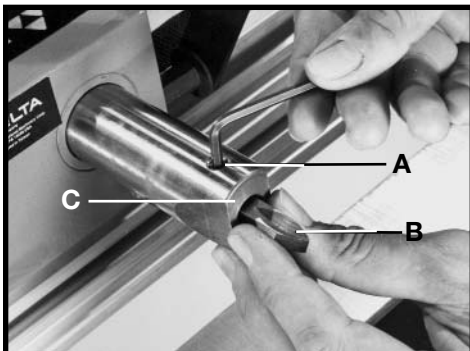

Fig. 45
1. Loosen set screw (A) Fig. 45, and insert cutting tool (B) into cutting tool arm (C) until the edge of cutting tool (B) extends approximately 1" out from the cutting tool arm (C). Tighten set screw (A).